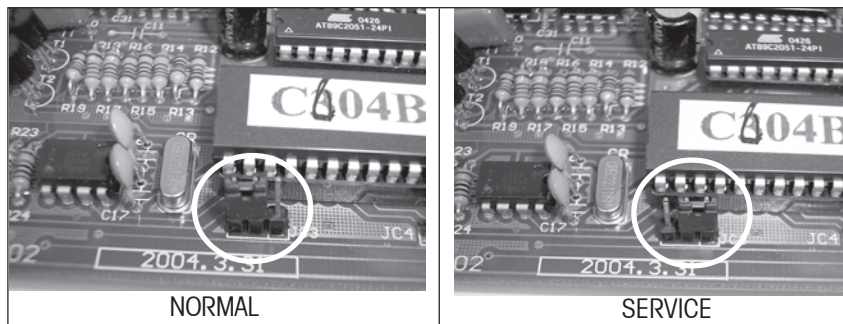

Figure 4-9. Main PC Board Jumper Positions.
13. Refer to Figure 4-9 and move the Main PC Board Jumper from normal to service position.